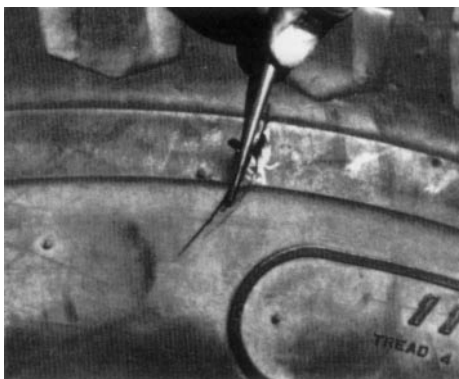

Fig. 5
1. Cut away any loose rubber. (If any wire plies are exposed and damaged, a section repair must be made.) See Fig. 5.